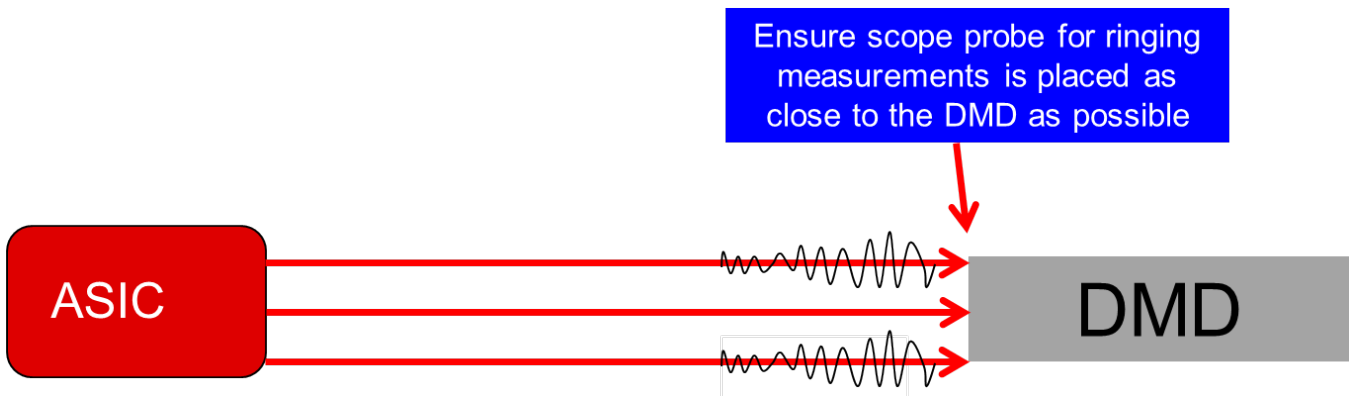

Figure 8. Measurement of DMD Signal Quality
- All signals must be measured as close as possible to the DMD (< 5 mm). See Figure 8.